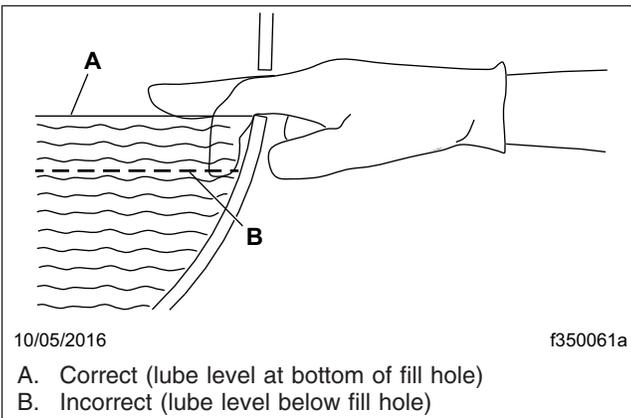

Fig. 3, Axle Lubricant Level Inspection
4. Check that the lubricant is level with the bottom of the fill hole. See Fig. 3. If low, check for oil leaks, and correct as needed. Add oil to the level of the fill plug, using the lubricant in Table 1 for Detroit axles or Table 2 for Meritor axles.